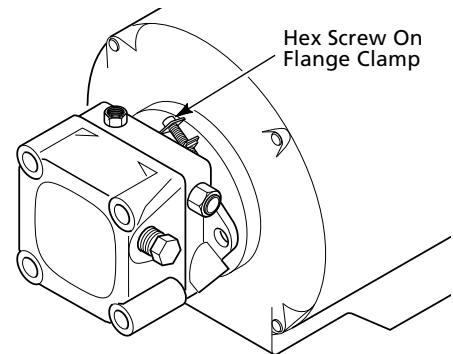

Figure 15 - Location of Screw on Flange Clamp
2. Loosen hex screw on flange clamp at rear of motor with 5/16" nut-driver (See Figure 15).